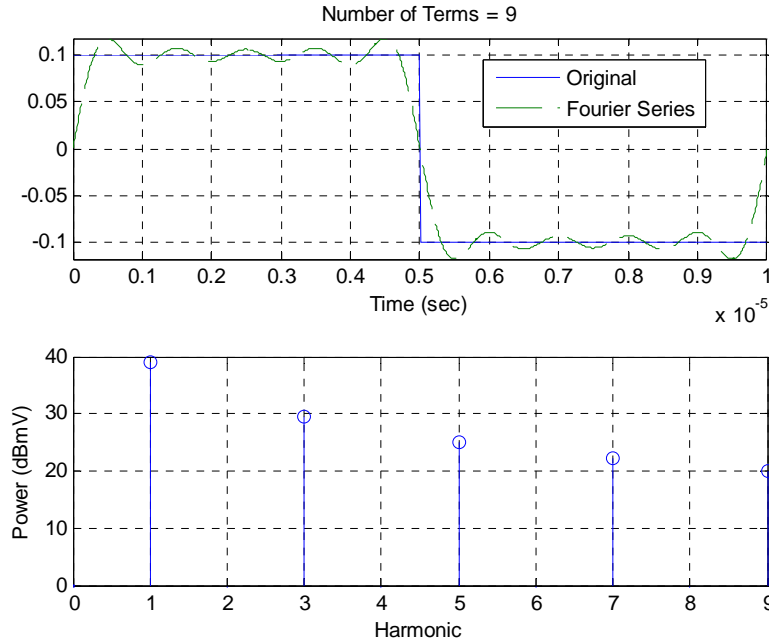

Figure 1: Results for problem 2b.
2. Plot the Fourier series representation and the single-sided power spectrum in dBmV. Use 9 terms. To plot the single sided power spectrum, we just plot the average power terms versus the corresponding frequency $0 \ \omega_0 \ 2\omega_0 \ \dots \ N\omega_0$. Since the fundamental frequency ω_0 is common to all of the frequency terms, we often just plot the Fourier indices, or *harmonics*, $0 \ 1 \ 2 \ \dots \ N$. To get the powers in terms of dB, you should use the **log10** command to compute the base 10 logarithm. You should also use the **subplot** command so you can plot both a signal and its Fourier series representation in one graph, and its single-sided power spectrum in a subsequent graph within the same window. Utilize the **stem** command in Matlab to do the plotting. For the power spectrum plot, plot the power versus the harmonic. The y-axis should be labeled *Power(dBmV)*, the x-axis labeled *Harmonic*. Your plots for this function should look like those in Figure 1. (Note the axis on the top graph is limited using the command **axis('tight')**, and is limited on the second plot using the command **axis([0 N 0 40]);**) *Be sure to plot both the Fourier series representation and the single sided power spectrum on one page, print it out and turn it in.*